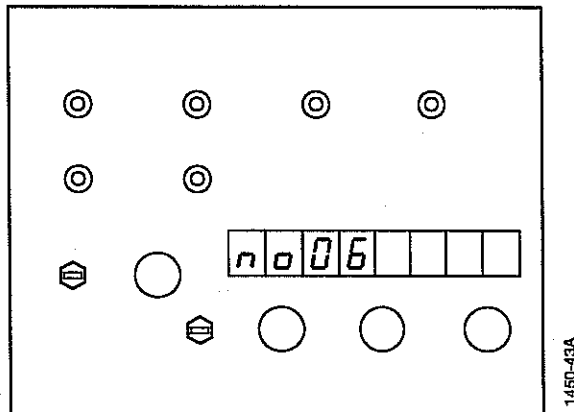

Figure 3-34. Test No. 06 Displays.
2. Make sure that **no. 06** is displayed on the LED display (see Figure 3-34).